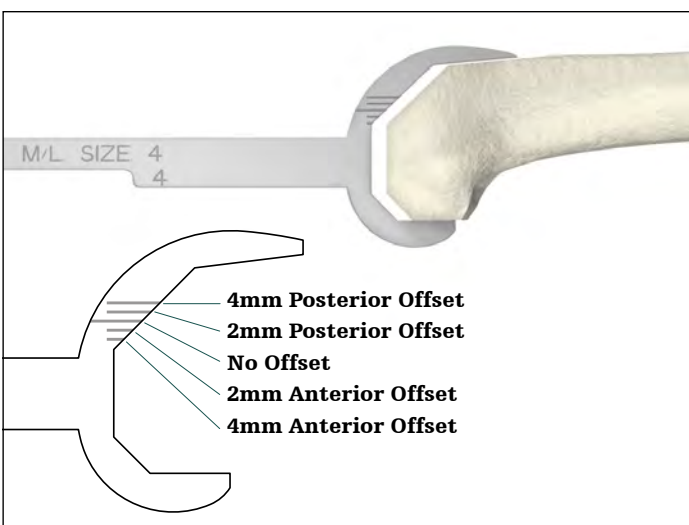

Figure 22
- To determine femoral size, match the appropriate Femoral Sizing Templates up to the femur (**Figure 22**).